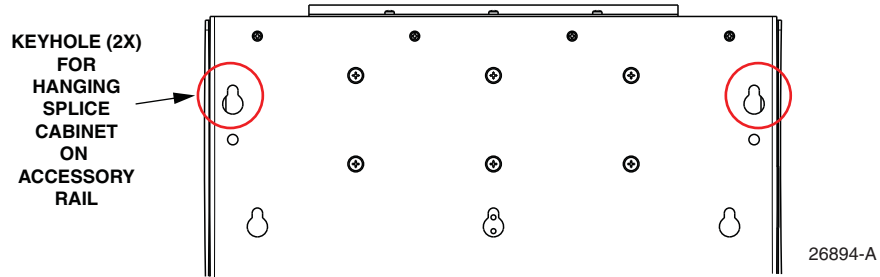

Figure 5. Key Hole Location on Back Interior Wall of Splice Cabinet
3. Hang the cabinet on the two screws just installed, using the cabinet mounting keyholes shown in Figure 5.